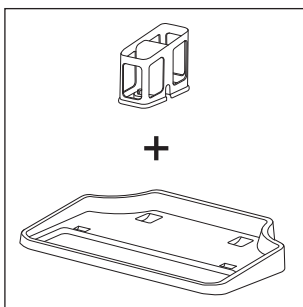
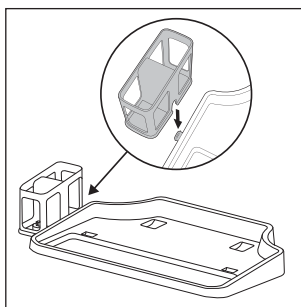

Fig. 4
Fig. 5
- ♦ The parking and cleaning station consists of a storage tray **4** and a rotary brush holder **5** (see fig. 4). To assemble the parking and cleaning station, slide the rotary brush holder **5** sideways into the opening on the storage tray **4**. Slide the rotary brush holder **5** downwards until it audibly engages in the opening and is firmly attached to the storage tray **4** (see fig. 5).